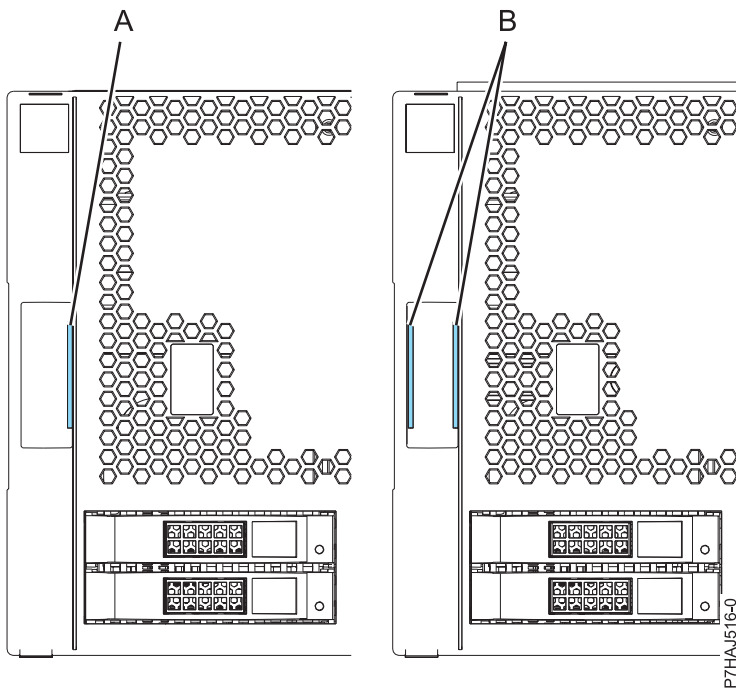

Figure 97. Identifying the older and newer covers
**Note:** The older covers that were shipped before 1 March 2011 can be identified by a single blue stripe (**A**) on the cover assembly latches. Newer covers that were shipped after 1 March 2011 have two blue stripes (**B**) on the cover assembly latches. See Figure 97 on page 122.